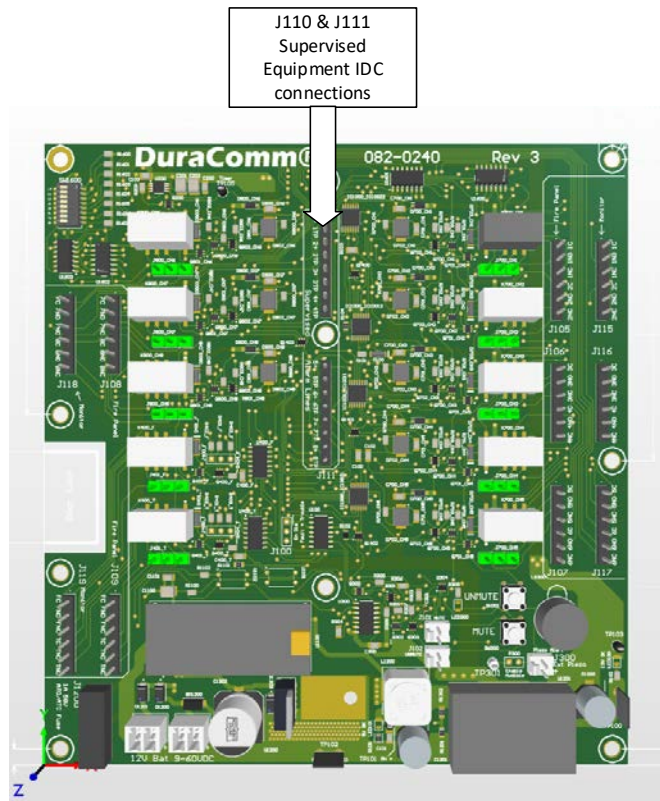
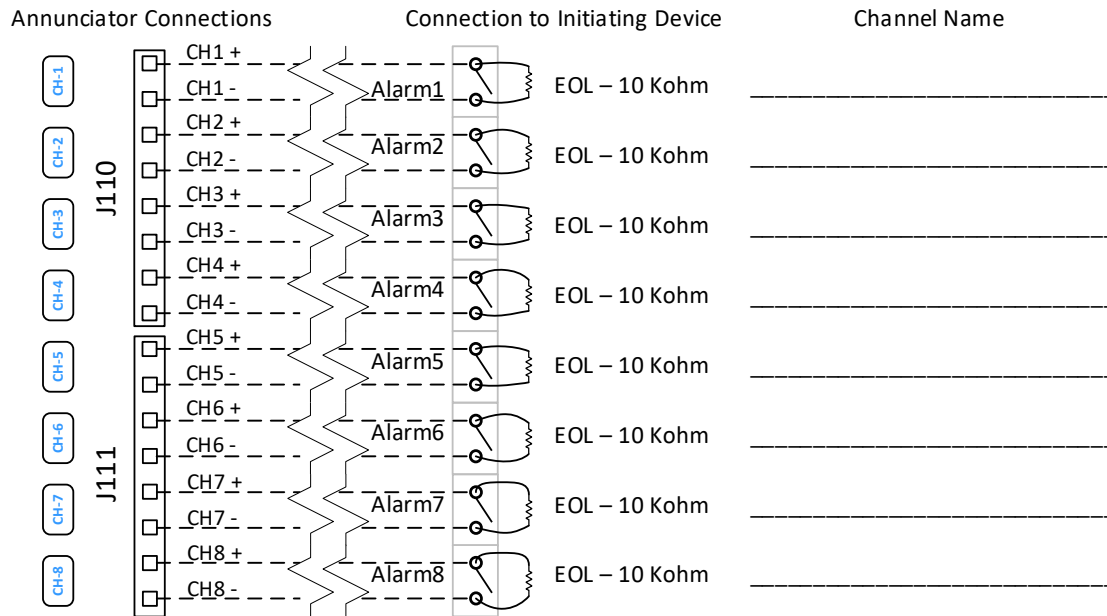

Figure 4: Supervised Equipment Wiring
Figure 5: Wiring for Supervised IDC Alarm Connections
3. Verify all IDCs have 10Kohm EOL installed across Normally Open alarm contacts. See Figure 5
4. Verify all IDCs measure 10Kohms (No Alarms) using ohm meter from annunciator end. See Figure 5
5. Connect alarms (alarm on close) to each channel + and TP on connectors J110 and J111. See Figure 4 and Figure 5.
6. Install 10Kohm EOL on channels that are not used for alarms. See Figure 4 and Figure 5